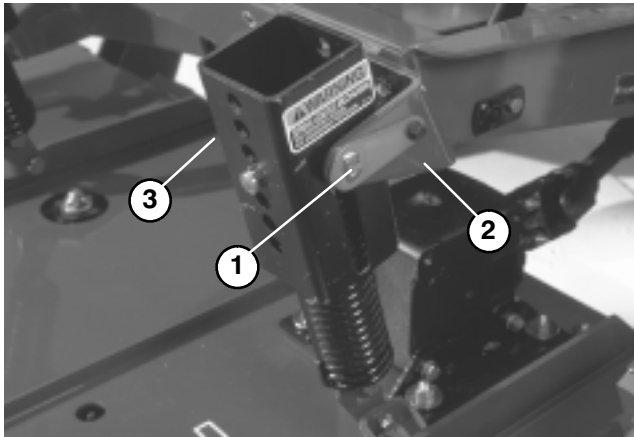

Figure 25
SEPARATING CUTTING UNIT FROM TRACTION UNIT (Fig. 25–27)
2. Disconnect counterbalance from traction unit, remove lock pins from brackets, separate spring tension assemblies from brackets and lay them down on the deck. Loosely secure lock pins to brackets to prevent losing them (Fig. 25).
MOUNTING CUTTING UNIT TO TRACTION UNIT (Fig. 25–27)